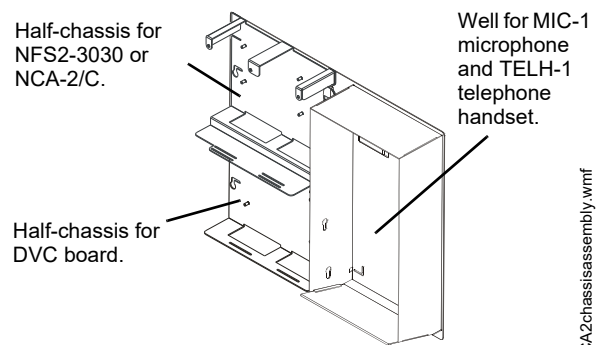

Figure 3.2 CA-2 Chassis Assembly
- **CA-2** - This chassis assembly occupies two rows of a CAB-4 series enclosure. The left side accommodates a DVC board mounted on a half-chassis and one NFS2-3030 or NCA-2/C mounted on a half-chassis. The right side houses a microphone and handset well. (Refer to Figure 3.2.)